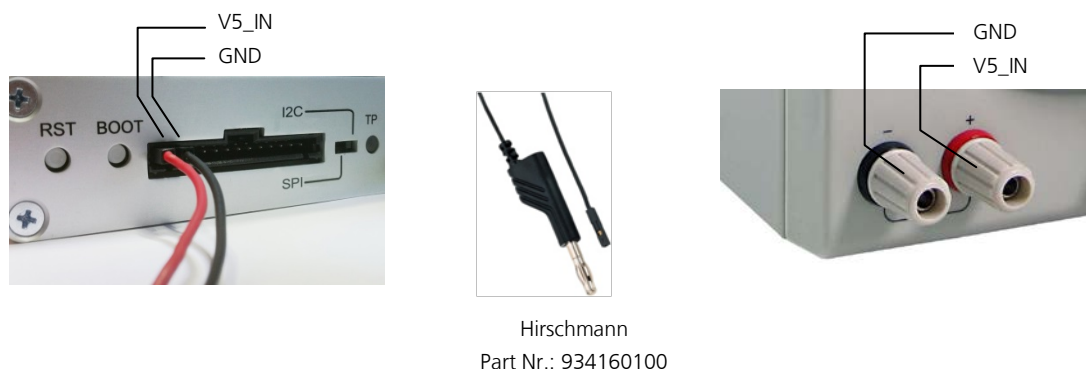
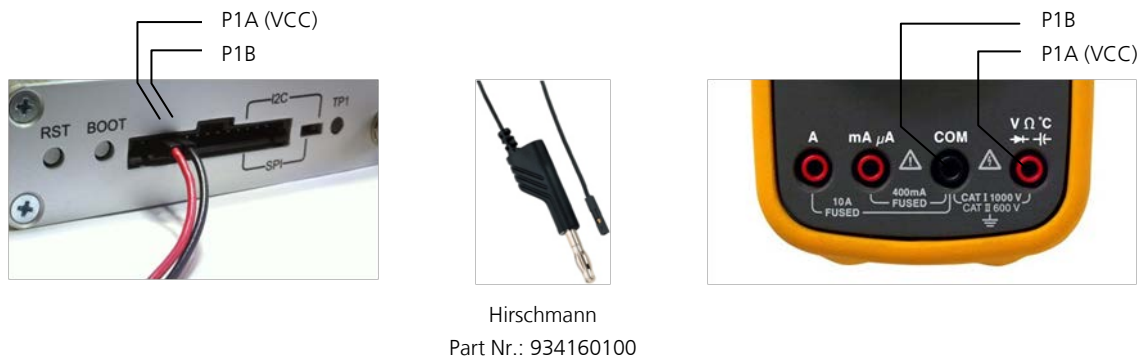

Figure 3: Example 5V DC power supply
Figure 4: Example – tracking current measurement
For accurate measurements, it is recommended to use a cable of at most 1 meter in length. Figure 3 shows an example of a power supply connected to the test connector by using standard adapter cables from the manufacture Hirschmann. Figure 4 shows an example for overall current measurement. When connecting the 3.3 V digital interfaces RS232, SPI and DDC to your application, a cable length less than 25 cm is recommended.
1. Connect a voltmeter capable of measuring average current across VCC and MODVCC of the front connector. (see Figure 4)